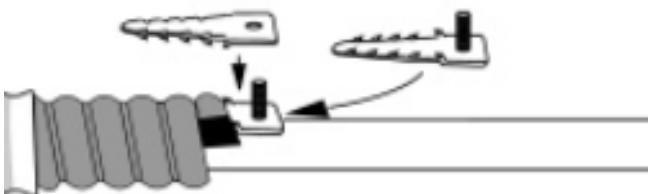

Figure 18
- Slide base plate under the armor. Be careful not to damage the intrabuilding cable (Figure 18).